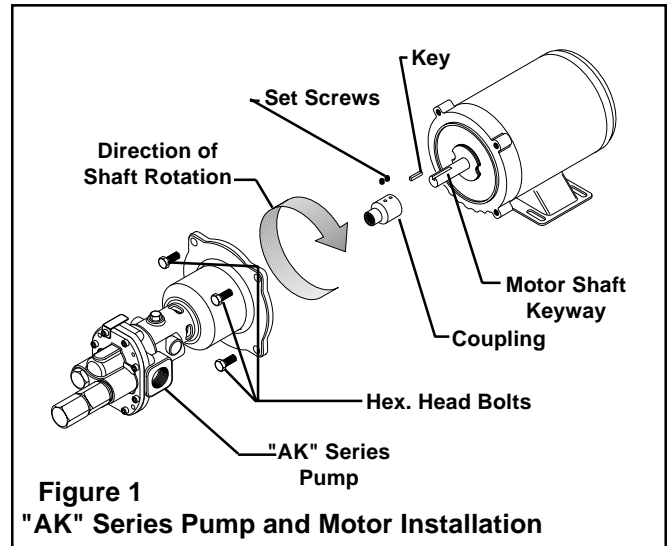

Figure 1
1. Insert the Key into the Motor Shaft Keyway (See Figure 1).
2. Slide the Coupling over the Key and onto the Motor Shaft (See Figure 1).
3. Using the two Set Screws, secure the Coupling to the Motor Shaft (See Figure 1).
5. Slide the "AK" Series Pump Shaft into the Coupling (See Figure 1).
6. Using the four Hex. Head Bolts, secure the "AK" Series Pump to the Motor; then, alternately and evenly tighten the four Hex. Head Bolts (See Figure 1).